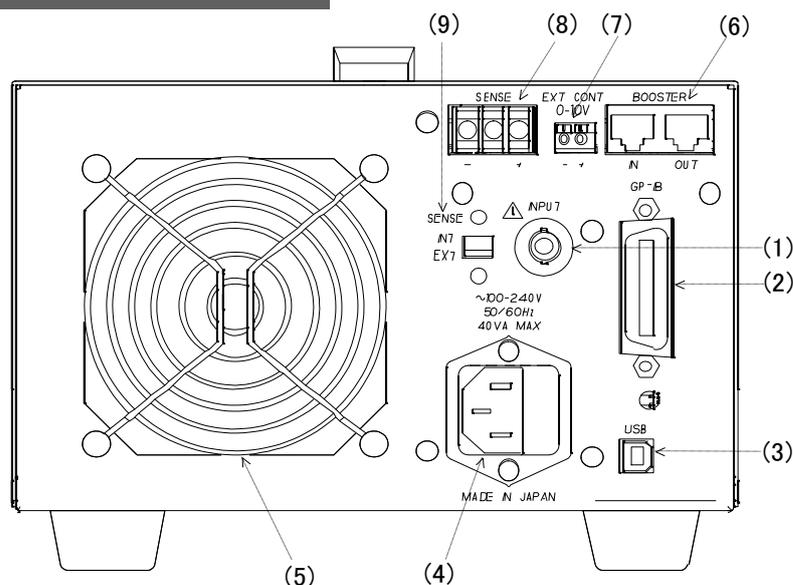

Fig. 3-2-1 Rear panel.
EXT Fig. 3-2-1 Select the voltage being applied at rear panel (8)